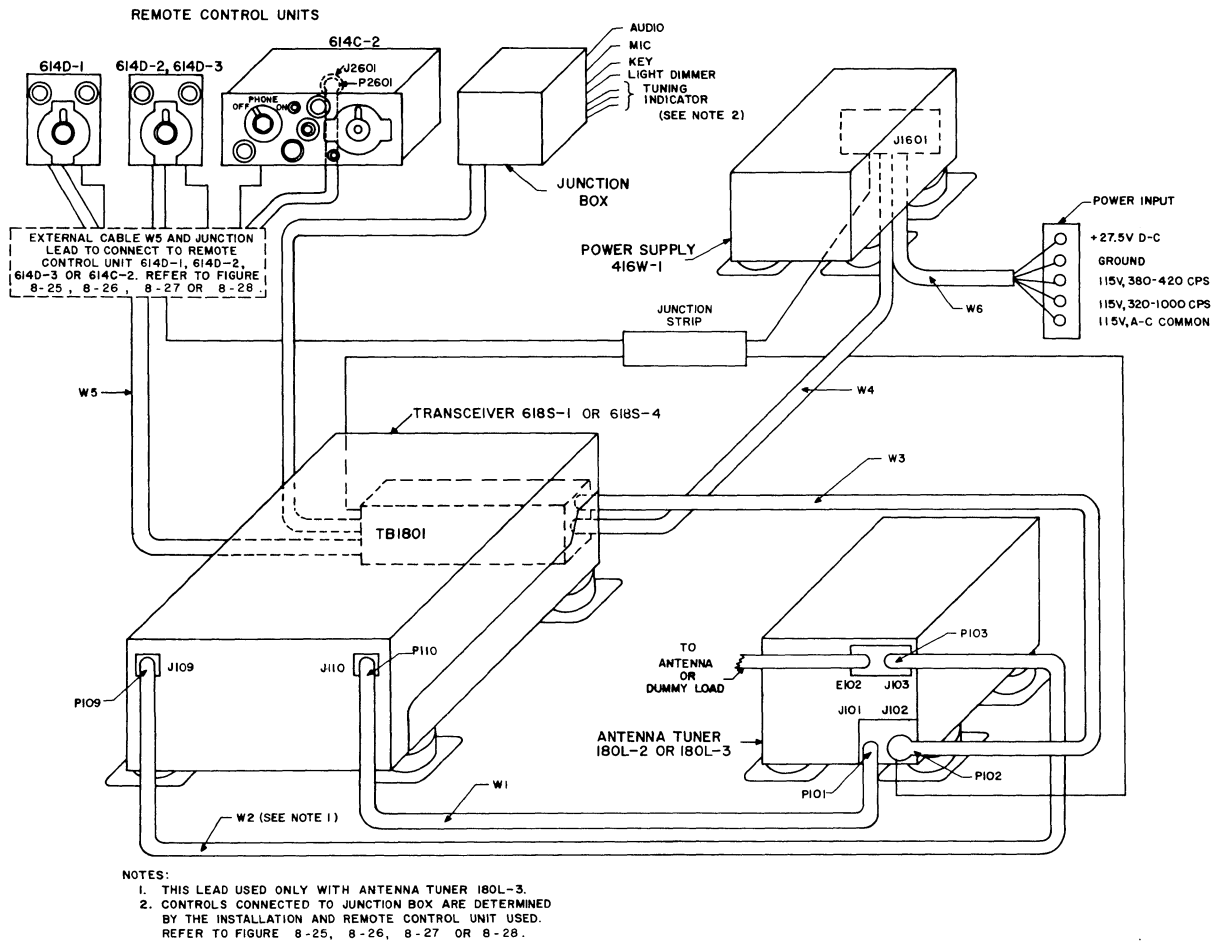

Figure 2-1. Transceiver 618S-1, System Cabling
A test bench should be provided to accommodate the components to be tested and the various test instruments. The cabling between components should simulate that of an actual aircraft and should be in accordance with figures 2-1 and 8-25 through 8-28, depending on which Remote Control Unit is used. Jacks should be included in the bench wiring for connecting the microphone and headset when needed. For aural monitoring, the monitor may be connected to terminal b of P2601/J2601 when Remote Control 614C-2 is used or to terminal 43 of TB1801 when Remote Control Units 614D-() are used. When monitoring with headphones connected to the PHONE jack on Transceiver 618S-1, the volume is not variable. The power source should be connected into the test
- Complete cabling to components as shown in figure 2-1 and 2-2 as required for the particular installation. (Refer to figures 8-25 through 8-28.)